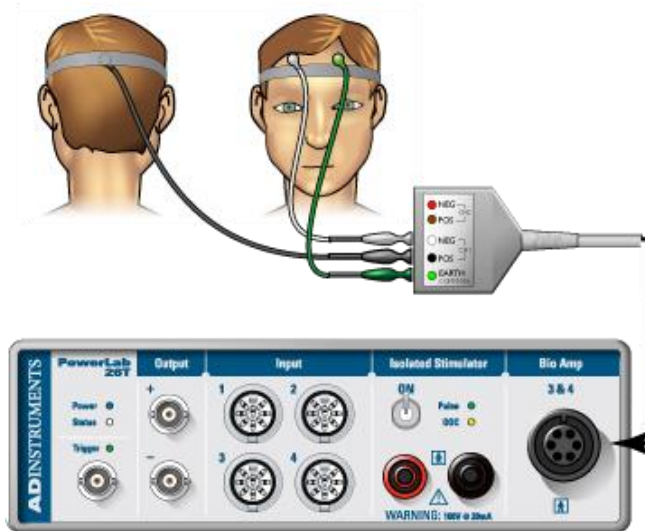

Figure 1. Equipment Setup for PowerLab 26T. Image courtesy of ADInstruments ©
2. Connect the 5 Lead Shielded Bio Amp Cable to the Bio Amp Connector on the front panel of the PowerLab (Figure 1). The hardware needs to be connected **before** you open the settings file.
3. Attach the leads of the EEG Flat Electrodes to the Earth, CH1 NEG and POS pins closest to the labeled side on the Bio Amp Cable (the side with the stickers labeling the connections). Channel 1 “**positive**” will lead to the inion (the bump on the back of the head above the neck) and Channel 1 “**negative**” will lead to the forehead. Channel 2 will be empty and the Earth will lead to the temple. Refer to Figure 1 for proper placement, but do not attach them to the volunteer yet. Follow the color scheme on the Bio Amp Cable.
5. With Figure 1 as a guide, locate where you will place the electrodes. Abrade the skin with the NuPrep Abrasive Gel.
7. While the skin is drying, scoop Electrode Paste into the EEG Flat Electrodes. When the skin is dry stick the electrodes to the skin (Figure 1). Immediately hold the electrodes and wires in place with the medical tape. Make sure the tape firmly holds the electrodes against the head. Use the elastic bandage to wrap tightly around the head. This will help the electrodes maintain good contact with the skin.